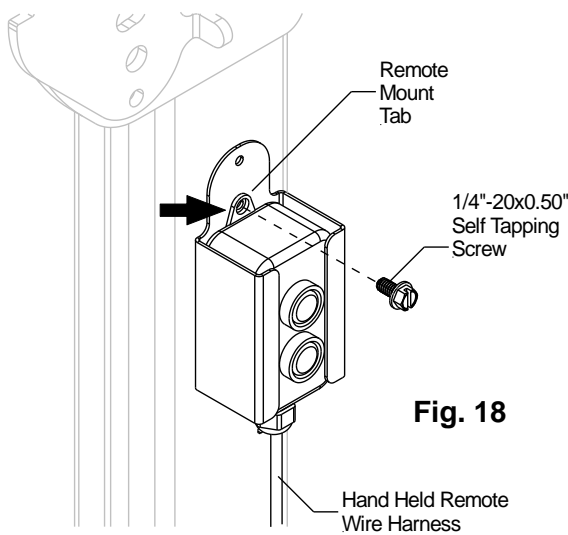

Fig. 18
3. **Hand Held Remote:** The liftgate will ship with a 2-button (standard), **Fig. 18**, or a 3-button (optional), **Fig.19**, hand held remote. Place the control inside the holster and align the mounting tab of the remote with the corresponding hole on the holster. Use the 1/4"-20x0.50 self-tapping screw to secure the remote to the holster.